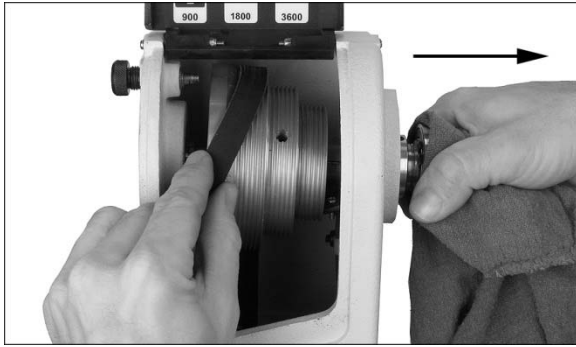

Figure 32
10. Continue pulling spindle toward tailstock until it clears left hole in headstock and offers enough room to remove belt (Figure 32).